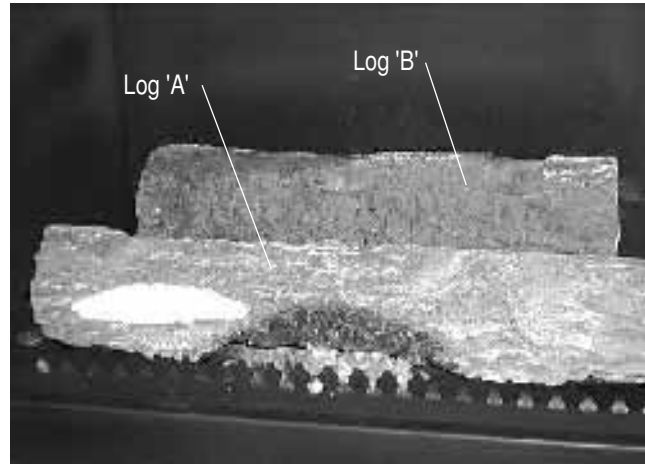
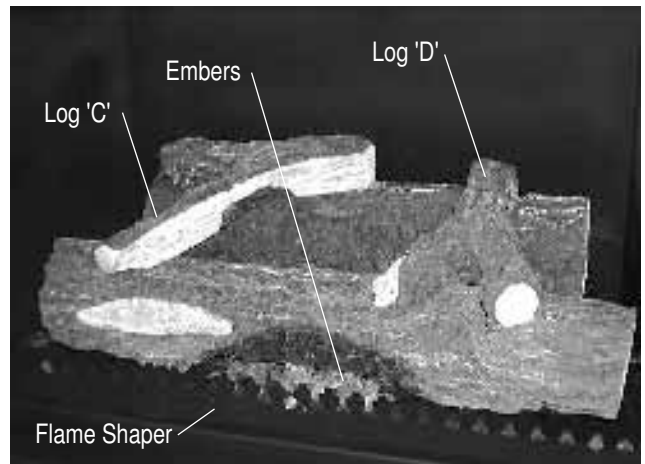

Figure 24a. Logs 'A' and 'B' shown in factory-installed positions.
Figure 24b. Completed log installation. Logs 'C' and 'D' are placed in their mating positions, and embers are in place.
The **ME34-DV** is supplied with four (4) fibre logs. Logs 'A' and 'B' are factory installed on the mounting slots. They should be positioned as shown in figure 24a. Place log "C" and log "D" onto the mating positions as shown below in figure 24b.